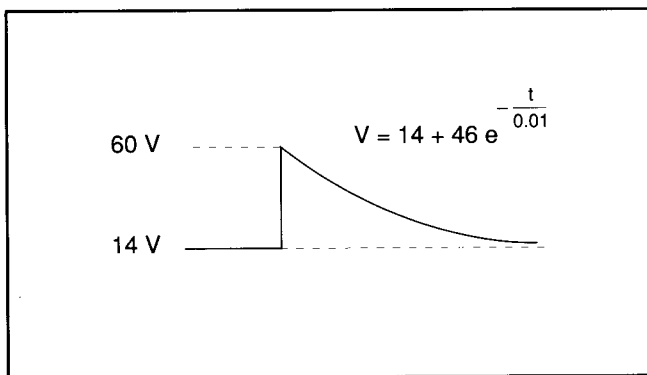

Figure 5 Load Dump Condition
2. Load dump condition (Refer to figure 5)